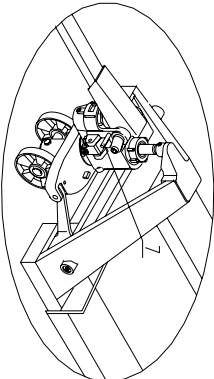

Fig. 3
2.1.6 See fig 3, turn the hand grip to the level position, pull out pin 7 and save pin 7 with care for next use.